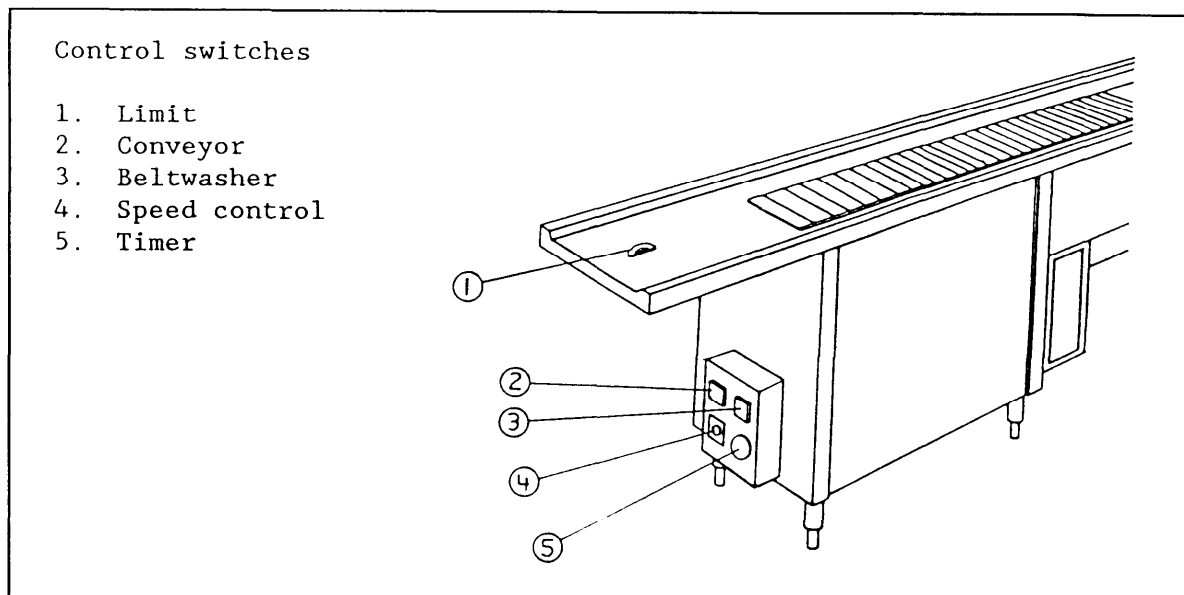

Figure 15
6.5.2 Major Conveyor Components. Major conveyor components include drive chain, drive shaft and bearings, motor, potentiometer, slats, sprocket gears, washbox, and the components shown on Figure 15.